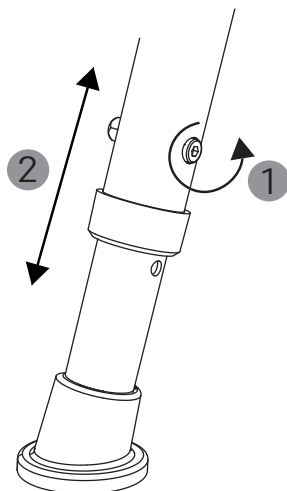

Fig. 15
2. To adjust the telescopic legs, undo and remove the bolts (1, Fig. 15).
3. You can now set the telescopic legs to the required length (2, Fig. 15), ensuring that the holes of the inner and outer tubes are aligned with each other.